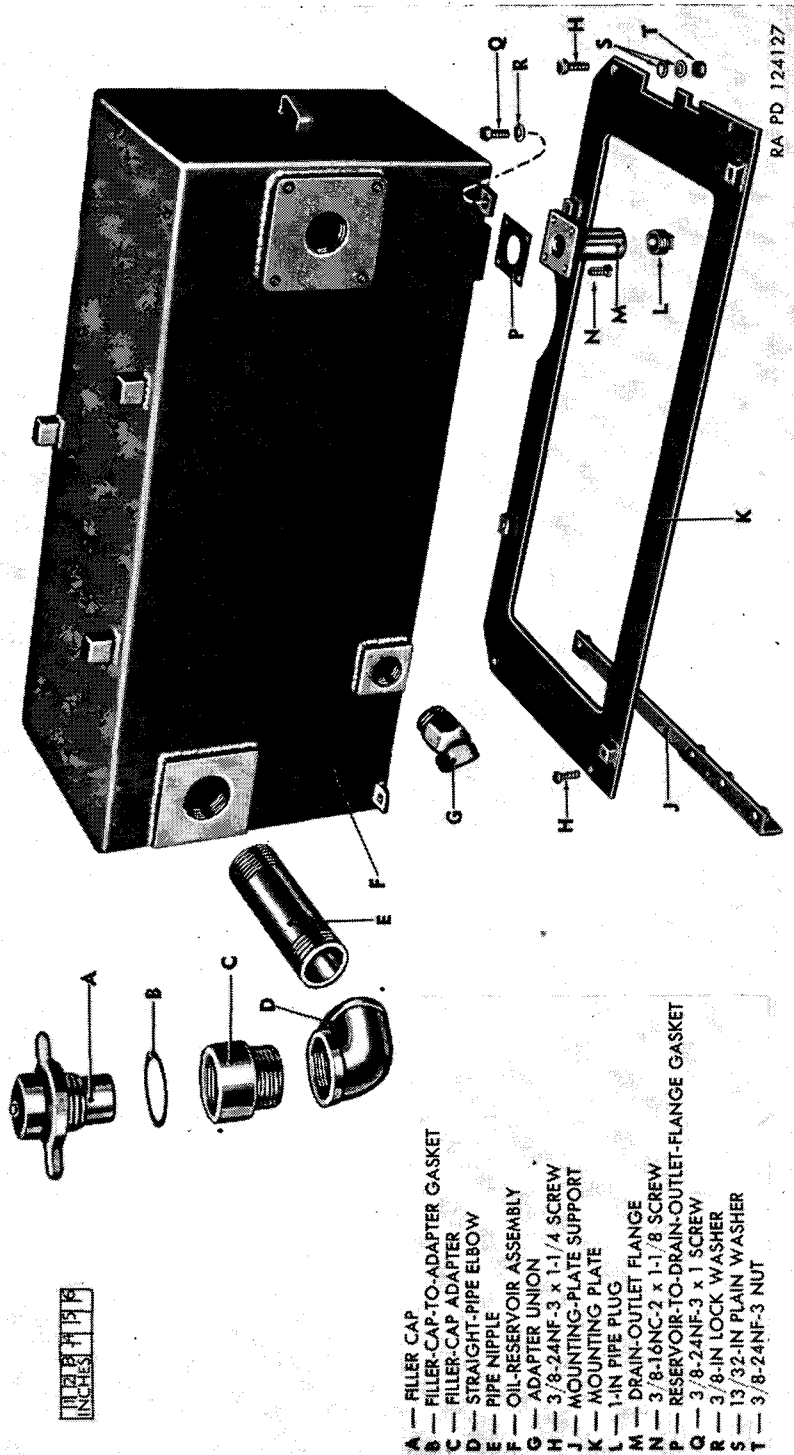

Figure 58. Hydraulic-pump oil reservoir and mounting plate—exploded view.
- (5) Remove four screws and lock washers to detach the reservoir from its mounting plate (fig. 58).
- (6) Insert a cross bar between the front end of the reservoir and the rear of the vehicle front bulkhead to slide the reservoir backward on its mounting plate. While sliding the reservoir backward, disconnect the hydraulic-pump-to-reser-
- (3) Install four screws and lock washers to secure the reservoir to its mounting plate (fig. 58).
- (3) Remove four screws and lock washers which secure the oil reservoir to the mounting plate (fig. 58).
- (4) Remove the pipe plug from the drain-outlet flange (fig. 58) and drain all oil from the reservoir into a 16-gallon can placed under the vehicle.
- (6) Remove the adapter union just disconnected from the hose.
- (7) Remove the filler cap, gasket, filler-cap adapter, and the pipe nipple (with the pipe-straight elbow attached) from the oil reservoir (fig. 58).
- (8) Raise the oil reservoir straight up to the level of the compartment floor and turn it to rest on its left side with the end which was towards the front of the vehicle on top of the front bulkhead and the rear end on top of the rear bulkhead.
- (2) Position the reservoir inside the compartment with the end having the welded-on handle at front (fig. 58), with the side having the two mounting pads at top, and with the reservoir "cocked" so that the front end is resting on top of the front bulkhead and the rear end is resting on top of the rear bulkhead.
- (3) Place the drain-outlet-flange-to-reservoir gasket over the mounting pad which is close to the front on the right side, and install the drain-outlet flange over the gasket, securing it in place with four screws and lock washers (fig. 58).
- (4) Turn the reservoir to place the drain-outlet flange at bottom and the side having the two mounting pads at the right. Lower the reservoir into place on top of its mounting plate.
- (5) Install the pipe nipple with straight elbow attached in the threaded hole at the rear end of the right side of the reservoir, tightening the nipple to place the elbow so that it points straight up. Install the filler-cap adapter, gasket, and filler cap in the elbow (fig. 58).
- (1) Remove the hydraulic-pump oil reservoir (par. 97).
- (2) Remove four screws, washers, and nuts, and remove the mounting plate from the vehicle (fig. 58).
- (2) Secure the plate in position with four screws, washers, and nuts (fig. 58).
- (3) Install the hydraulic-pump oil reservoir (par. 97).